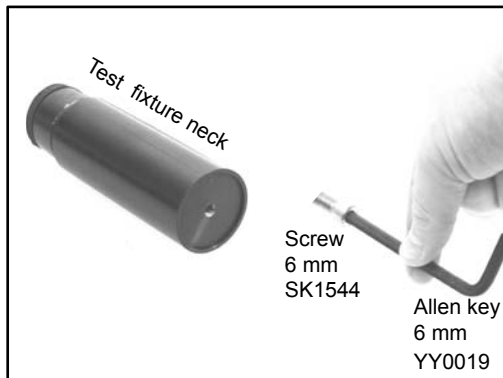

Fig. 3.1
1. Place the test fixture neck onto a solid table, and find the supplied screw and 6 mm Allen key (Fig. 3.1).